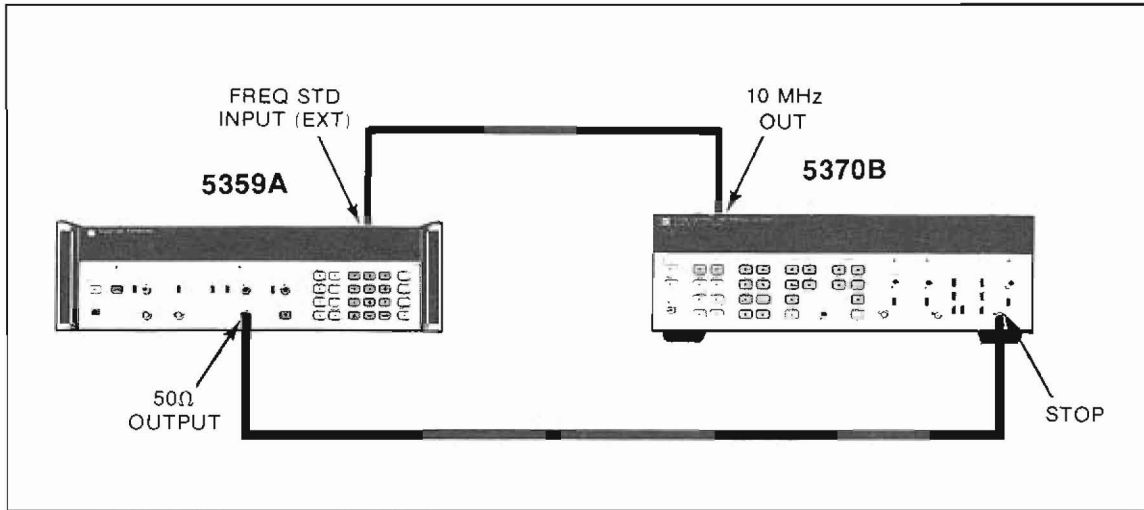

Figure 4-2. Setup for PERIOD Performance Test
3. Connect the 5359A and 5370B as shown in *Figure 4-2*.